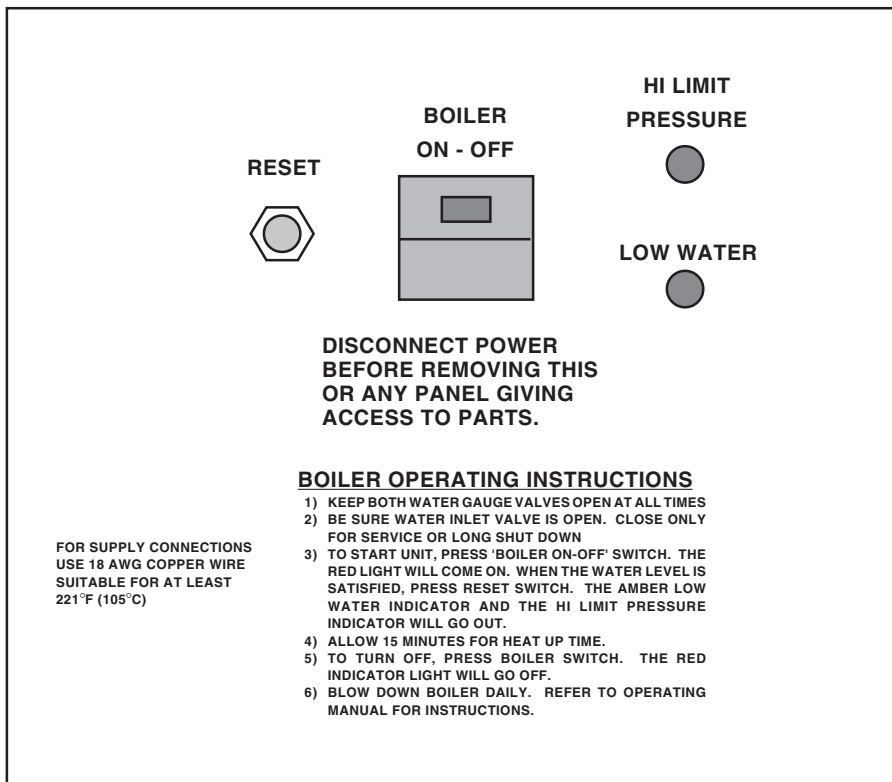

Fig. 5
5. Press the top half of the Boiler On – Off switch (Fig. 5) to turn it on. The red light comes on.
10. When water level is satisfied, press Reset (Fig. 5). The Hi Limit Pressure and Low Water lights should go off and the main Burner should light.